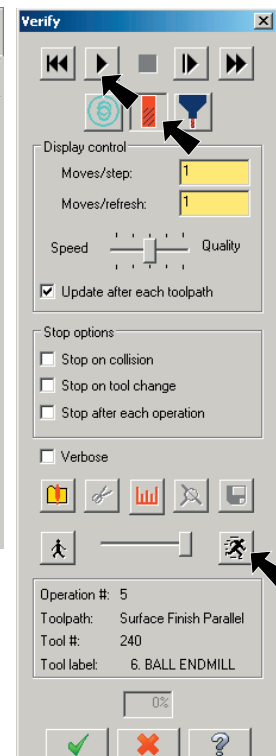

Fig. 104
Step 2. Click **Verify**  in the Toolpaths Manager, **Fig. 104**.